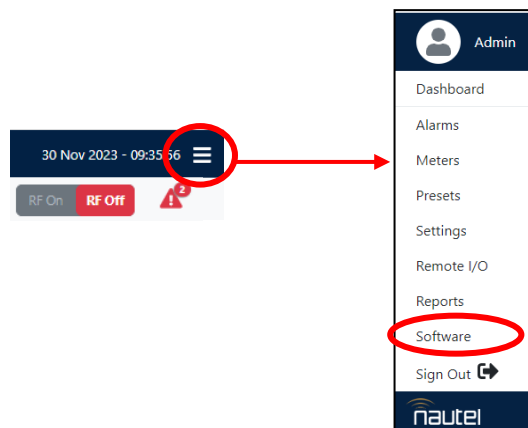

Figure 2: Main Menu for HTML5-based Remote AUI
- (o) Click the remote AUI's Main Menu icon (☰) in the top right of the AUI dashboard to display the main menu options (see Figure 2). Select **Software**, then the **Software Versions** page to view the Details of the installed software. Upgrade software as required. See the Operations & Maintenance Manual and any applicable Nautel-supplied Information Sheets for detailed instructions.